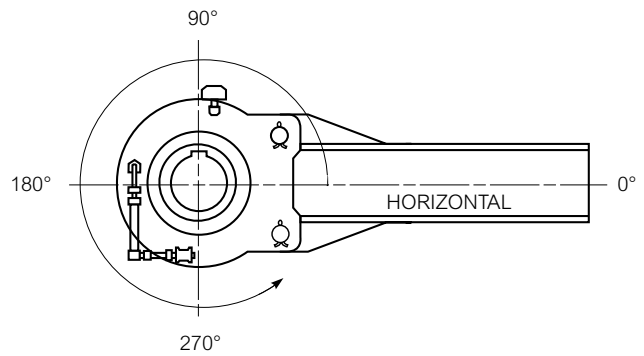

Figure 4
1. As previously stated, Rexnord custom fits the lubrication lines and marks the static oil level to suit the torque arm mounting angle specified at the time of purchase. The lubrication lines, sight gauge, and breather are removed for shipping purposes. The torque arm mounting angle is stamped on the backstop nameplate, and the backstop must be mounted at this angle, ( $\pm 5^\circ$ ). See Figure 4, page 5, for interpretation of mounting angle. Lubrication lines and oil level will be incorrect for other angles.